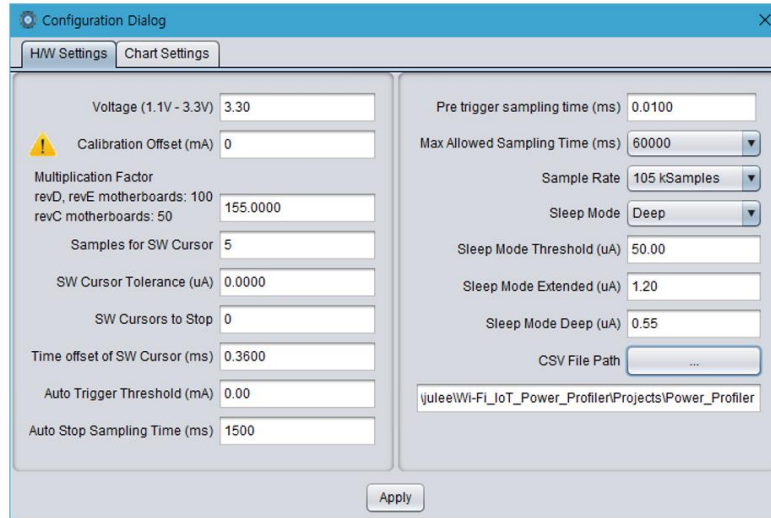

Figure 69. Setting offset to zero
2. In the main window of the Power Profiler, click **Config** and temporarily set the **Calibration Offset (mA)** field to zero as shown in Figure 69.